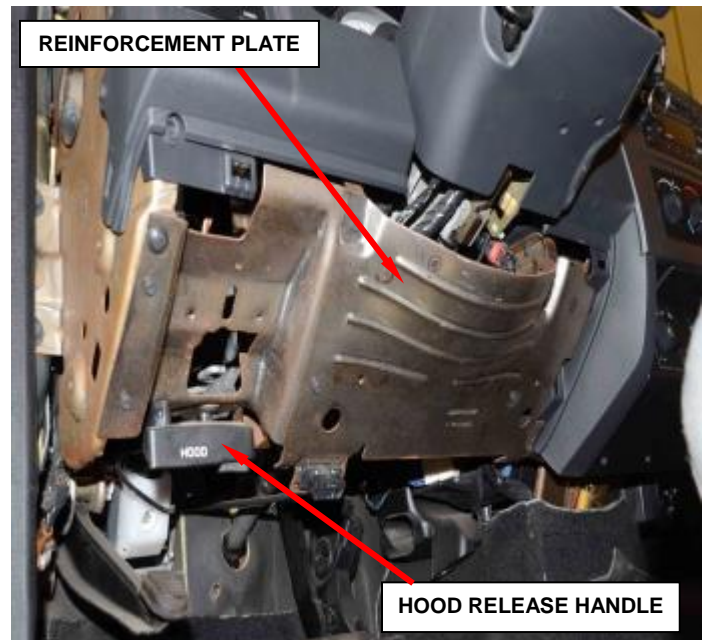

Figure 101 – Steering Column Reinforcement Plate
6. Remove the steering column reinforcement plate (Figure 101).
7. Remove the two hood release handle screws and position the handle to the side (Figure 101).